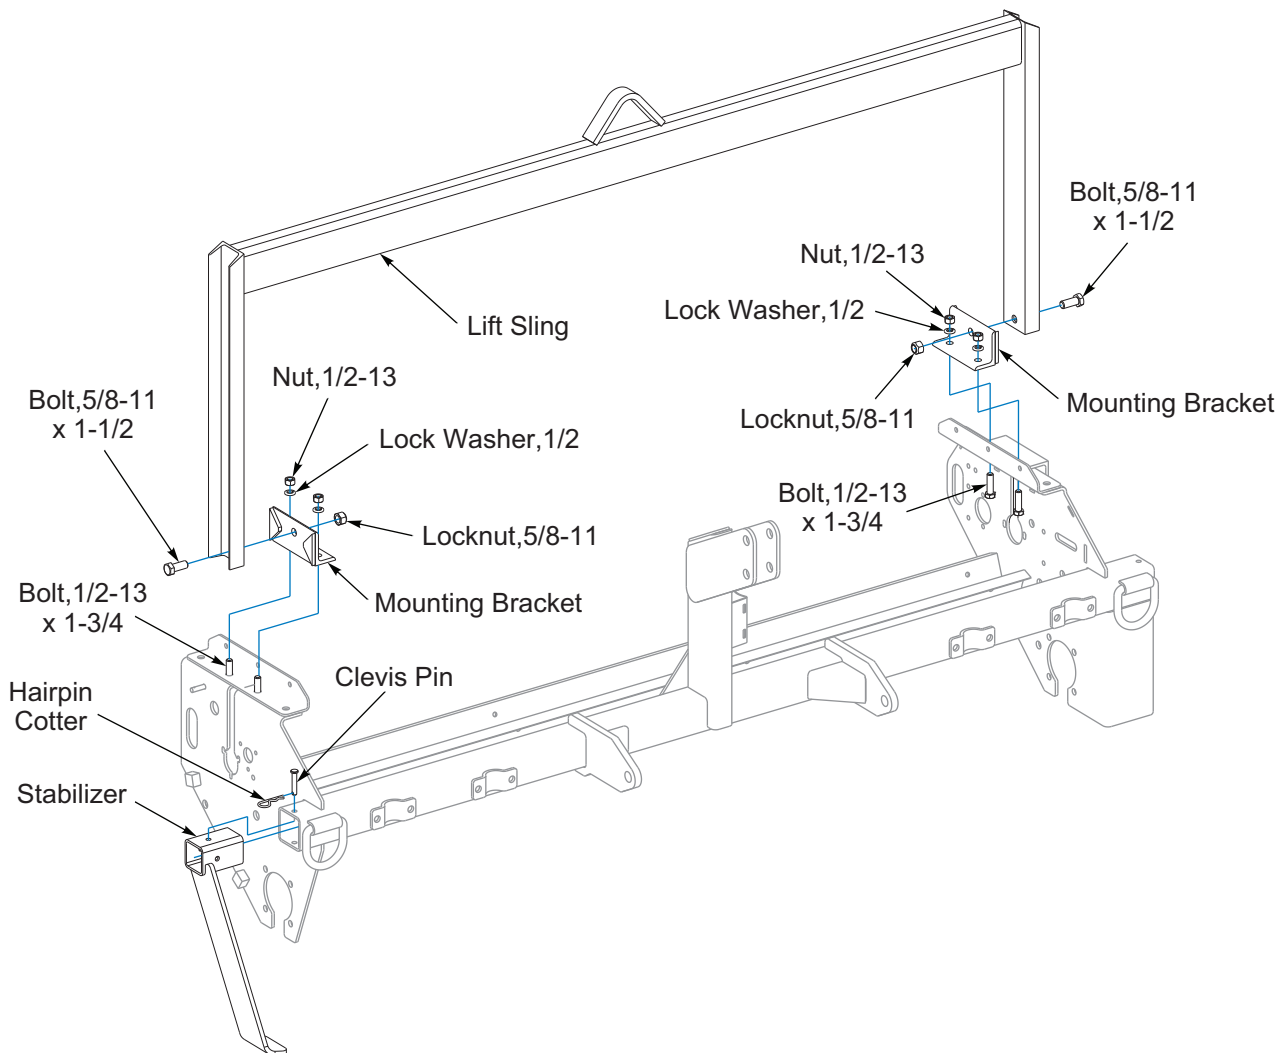

Figure 2-17: Lift Sling Kit
1. Attach a Mounting Bracket onto each side of the Seeder Frame with 1/2-13 x 1-3/4 Bolts, Lock Washers and Nuts. **See Figure 2-17.**